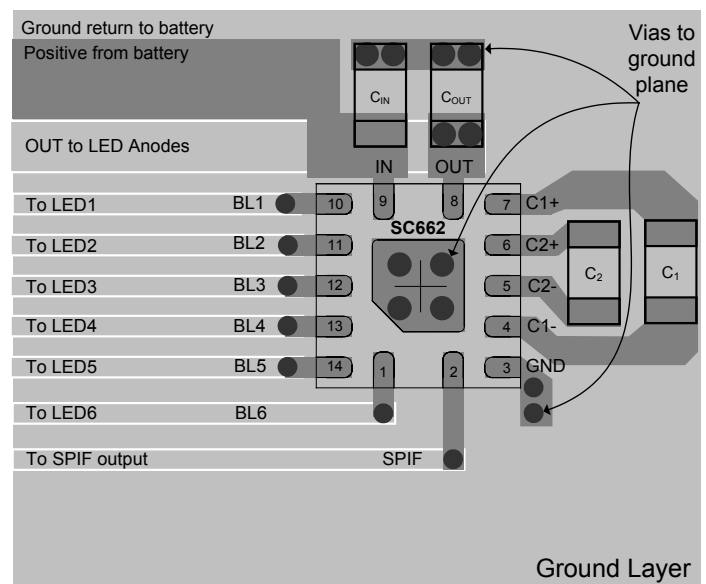
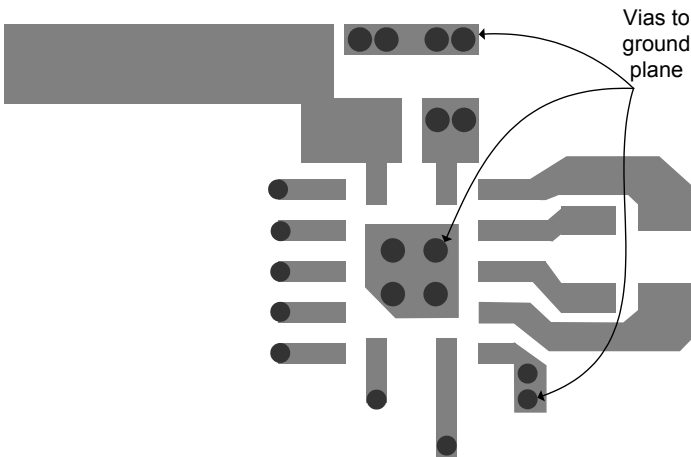
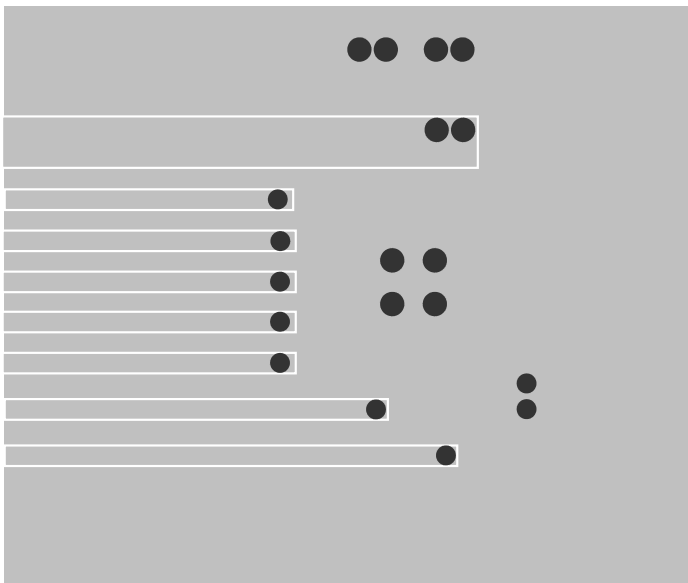

Figure 8 — Recommended PCB Layout
Figure 9 — Component Layer
Figure 10 — Ground Layer
Following fundamental layout rules is critical for achieving the performance specified in the Electrical Characteristics table. A recommended layout is illustrated in Figures 8, 9, and 10. Figure 8 shows a composite view of the two copper layers plus components, vias, and text descriptors. Figure 9 shows the copper layer on the component side of the board, and Figure 10 is the copper layer for ground and routing.
- CIN, COUT should have their grounds connected at one point as shown in Figure 8, with multiple vias to ground.
- Figure 8 is representative of a two layer design. As shown in this figure, the OUT trace can be placed next to the six LED traces on the same layer. However, if more than two layers are available, the preferred method is to have the OUT trace route underneath the LED traces on a different layer.